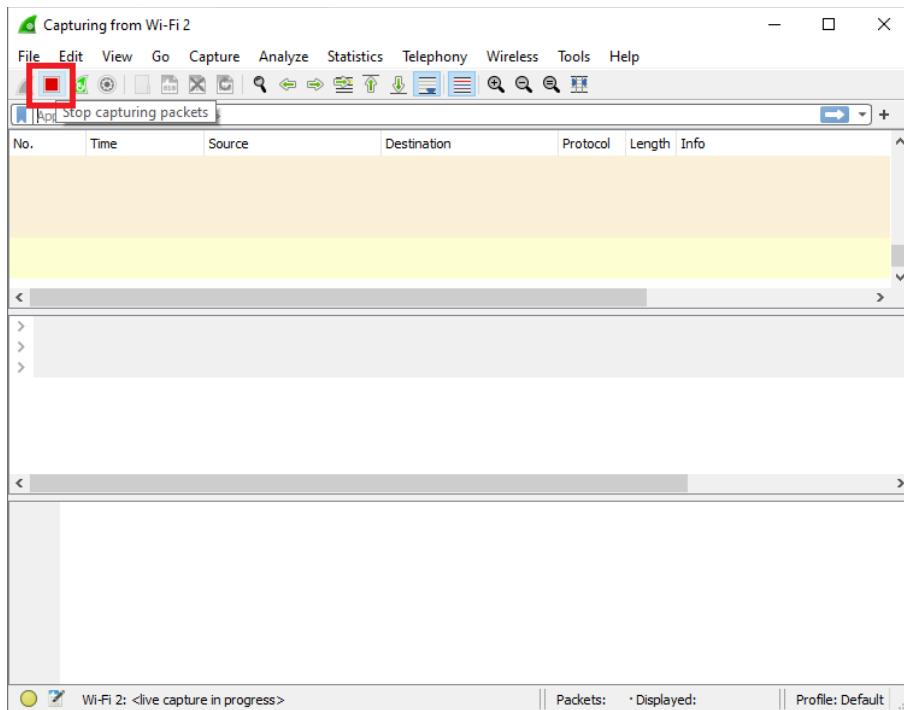

Figure 14: Stop capturing packets.
4. Click the red rectangle icon to stop recording (Figure 14).